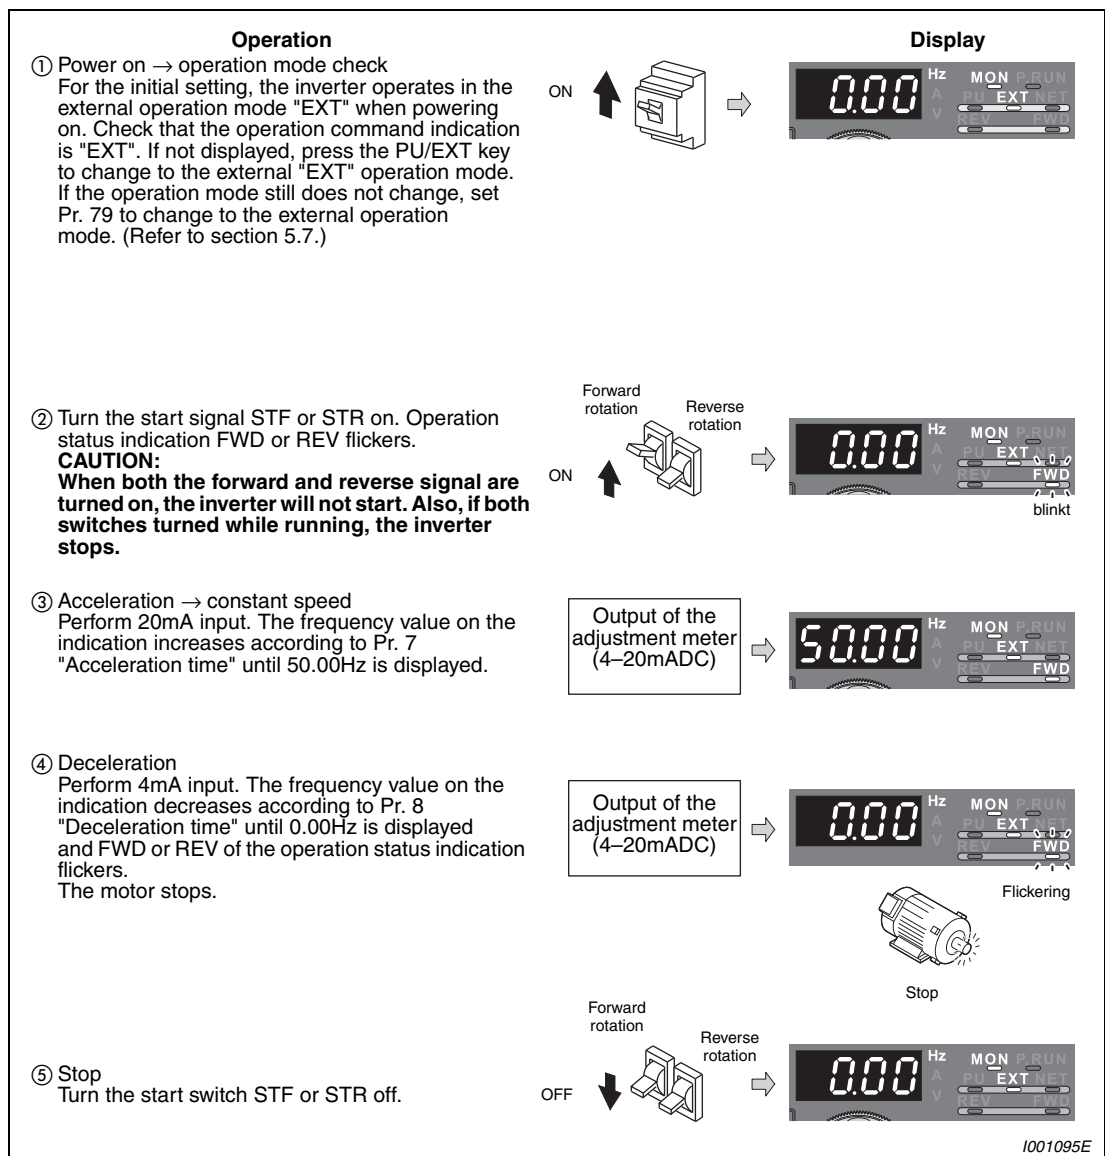

Fig. 4-30: Operate the inverter by using the analog current input
① Turn the digital dial until P.126 (Pr. 126) appears.	 →
② Press the SET key to show the currently set value. The initial value "50.00" (50.00Hz) appears.	 →
③ Turn the digital dial to change the set value to "40.00" (40.00Hz).	 →
④ Press the SET key to set.	 →
⑤ Press the MODE key twice to choose monitor/frequency monitor.	 →
⑥ Turn the start switch STF or STR on to allow 20mA current to flow. (Refer to Fig. 4-30, step ② to ⑤.)